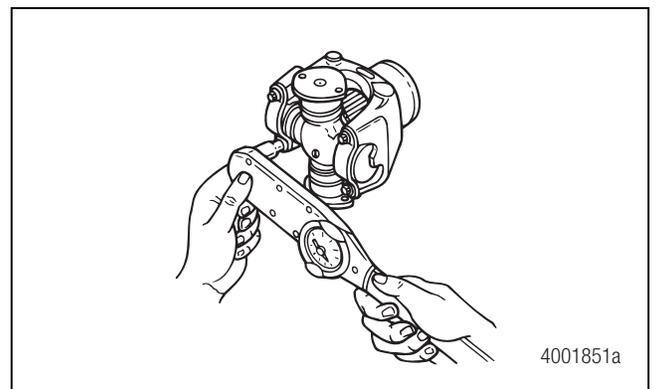

Figure 7.5
4. Use a torque wrench to alternately tighten the capscrews to Meritor’s driveline torque specification. Refer to Table D. Figure 7.5. **ⓘ**